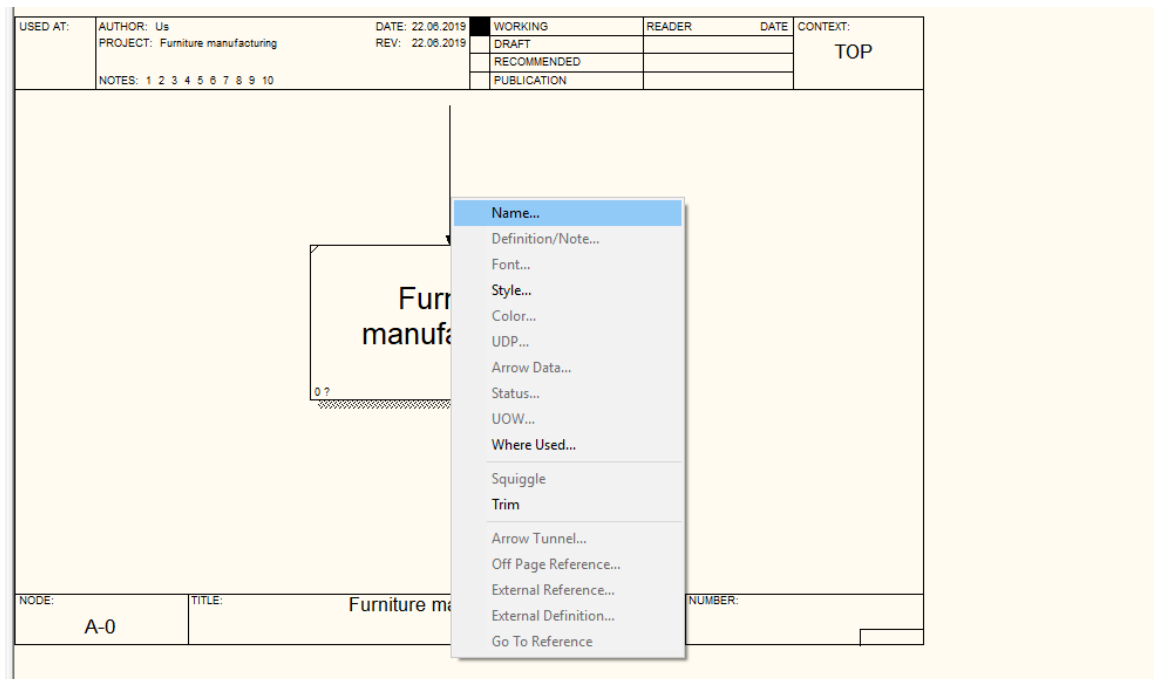

Fig. 1.12. The context menu
3. Choose **Name** (fig. 1.12).